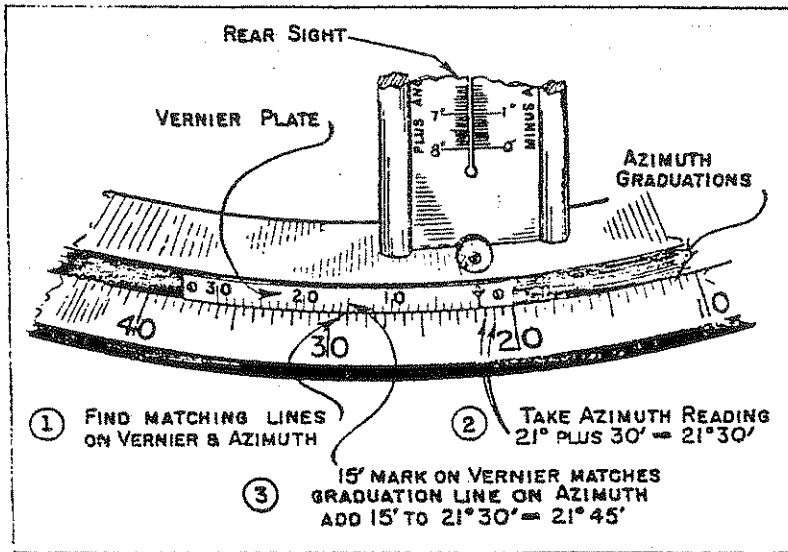

Figure 5. --Vernier plate on Osborne firefinder.
a. How To Read Horizontal Angle or Azimuth. Proper azimuth readings are made as shown in figure 5. The vernier plate is attached to the movable sighting ring and is used to read the azimuth, not only in degrees, but in fractions of degrees. A degree is divided into smaller divisions known as minutes. There are 60 minutes in a degree. The symbol for degree is $^{\circ}$. Twenty-one degrees and 30 minutes is abbreviated 21° and $30'$. Look at the azimuth graduation in figure 5. Note that 0 rests between $21^{\circ} 30'$ and 22° . In order to find how many minutes past $21^{\circ} 30'$ the marker lies, look toward the left until a line on the vernier coinciding with a line on the azimuth graduation is seen. Note that the line on the vernier that does coincide with a line on azimuth graduation is 15. The vernier is graduated in minutes, so add 15 minutes to $21^{\circ} 30'$ to get $21^{\circ} 45'$.